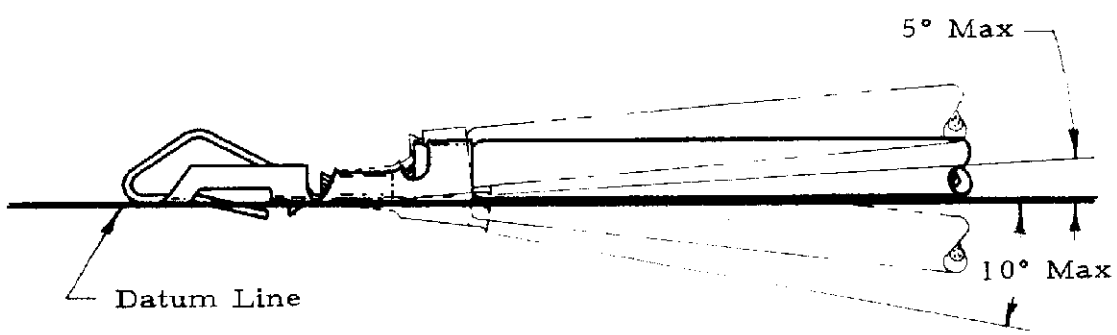

Figure 2
(1) The contact, including the cutoff tab and burr shall not be bent above or below the datum line more than the amount shown in Figure 2.